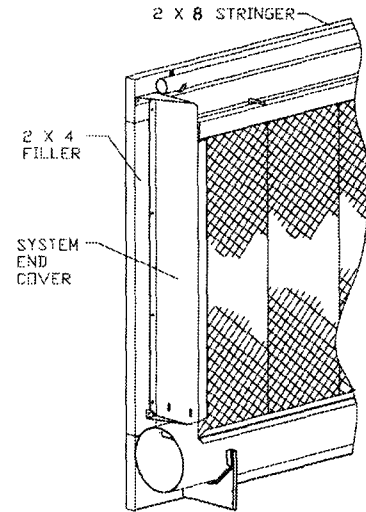

Figure 24
1. The system end covers attach to the stringer and to a 2" x 4" filler in the wall. Install a 2" x 4" filler between the top stringer and bottom stringer at each end of the pad system as shown in Figure 24.
2. Locate the two end fillers as shown in Figure 24. Place the end fillers into the pipe at the end of the Kool Cel pad as shown in Figure 23.
3. Locate the two system end covers as shown in Figure 24. Position the system end cover against the bottom of the 1 1/2" pipe at the top of the system and fasten to the filler and stringers as shown in Figure 24 using the 1/4" x 1 1/2" screws provided.
4. Attach the end filler (Figure 23) to the system end covers as shown in Figure 24 using the #10 x 1/2 inch screws provided.